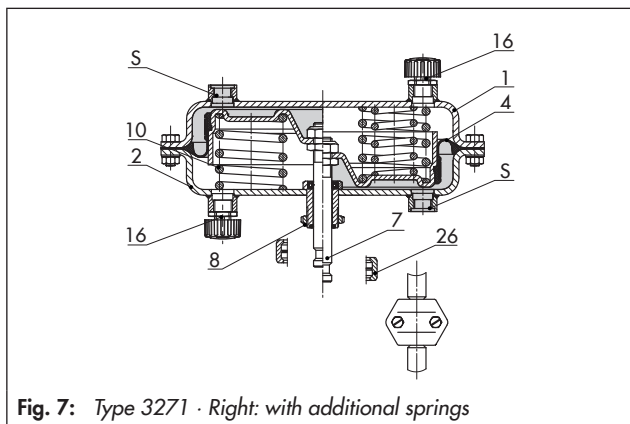
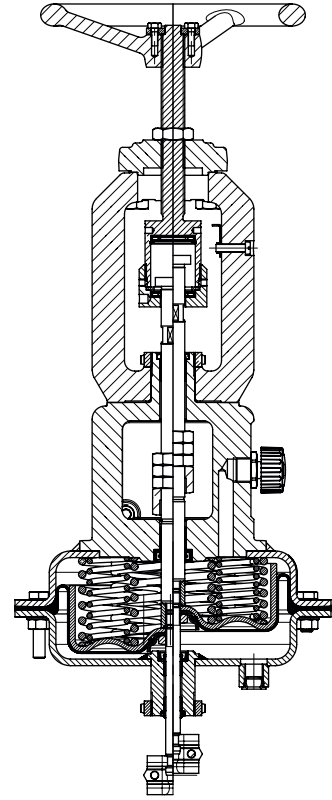

Fig. 7: Type 3271 · Right: with additional springs
Fig. 14: Type 3271 (175v2 cm²) - Combined version with hand-wheel and travel stops on both sides
- **Type 3271 or Type 3277 · Combined version with handwheel and travel stops on both sides** (Fig. 14) for 175v2 to 750v2 cm² actuator areas
Legend for Fig. 7 to Fig. 14